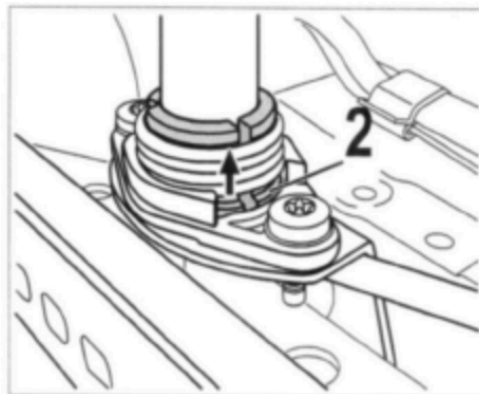

Figure 12
The **brake spring** moves the plastic bushing **up** (⇒ *Figure 12* -arrow-).
- 14 Use the syringe to apply grease **to the bottom of the plastic bushing** (⇒ *Figure 12* -item 2-).